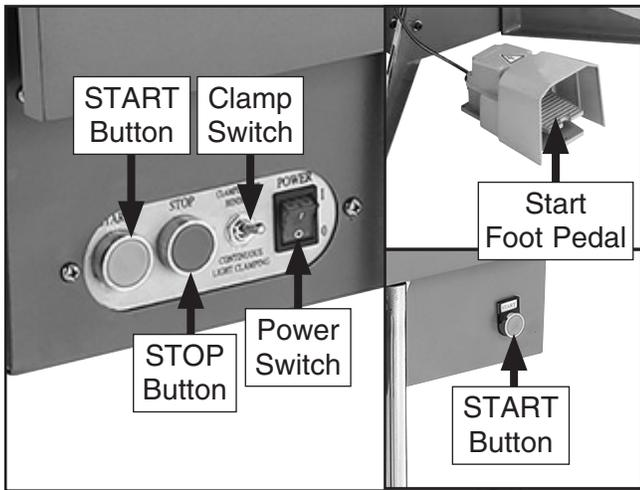

Figure 20. Electrical controls.
- Toggle power switch to (O) position (see **Figure 20**).
- Toggle power switch to (I) position to turn power **ON** (see **Figure 20**).
- Press green START (I) button on control panel to activate magnet (see **Figure 20**).
- Press red STOP (O) button to deactivate magnet (see **Figure 20**).
- Press stand-alone green START (I) button on to activate magnet (see **Figure 20**).
- Press red STOP (O) button.
- Press start foot pedal to activate magnet (see **Figure 20**).
- Toggle power switch to (O) position to turn power **OFF** (see **Figure 20**).